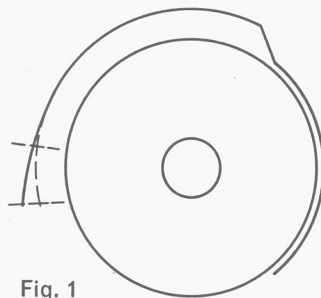

Fig. 1
- 1 Put the balance and spring into the movement as one would any wheel, without first securing the balance spring to the cock (going barrel unwound). In the natural position the balance spring should have the form shown in Fig. 1.